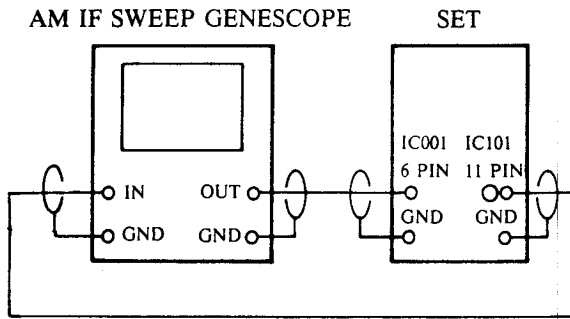

Fig. 3-5 MW, IF Adjustment
| 1    | IF   |                         |               | T101T103       | MaximumOutput     | Connect a sweepgenerator toIC101 (1) Pin andIC101 (11) Pin(IF OUT).Refer to Fig. 3-5 |